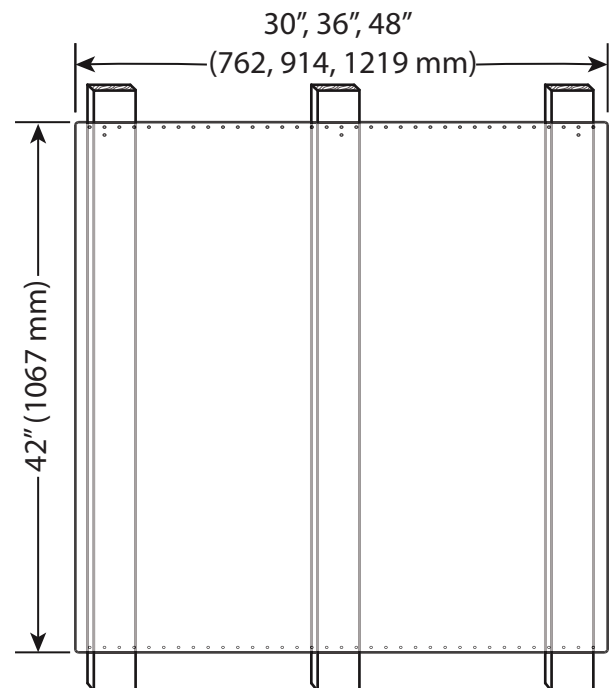

Figure 11: Backsplash Installation
3. Per each wall stud, use (2) 1" (25.4 mm) Phillips head screws to secure both the top and bottom of the Backsplash (see *Figure 11*). Space screws evenly across top and bottom of Backsplash.